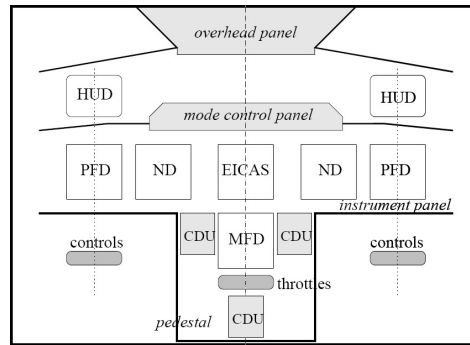

Figure 5.1: The cockpit human machine interface.
To inform the pilot of the status of the aircraft, the cockpit contains several displays. Among them are the **heads up display** (HUD), the **primary flight display** (PFD), the **navigation display** (ND), the **multi-function display** (MFD), the **control display unit** (CDU), the **engine indicating & crew alerting system** (EICAS) and the **mode control panel** (MCP). An overview of these displays can be seen in figure 5.1.